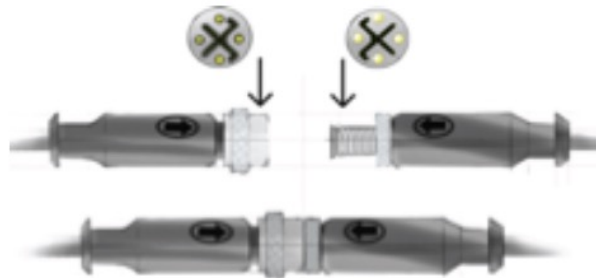

Fig. 11-2: Keyed Feature of Connectors
- a. Orient the mating cable connectors correctly and push together to engage (refer to Figure 11-2).